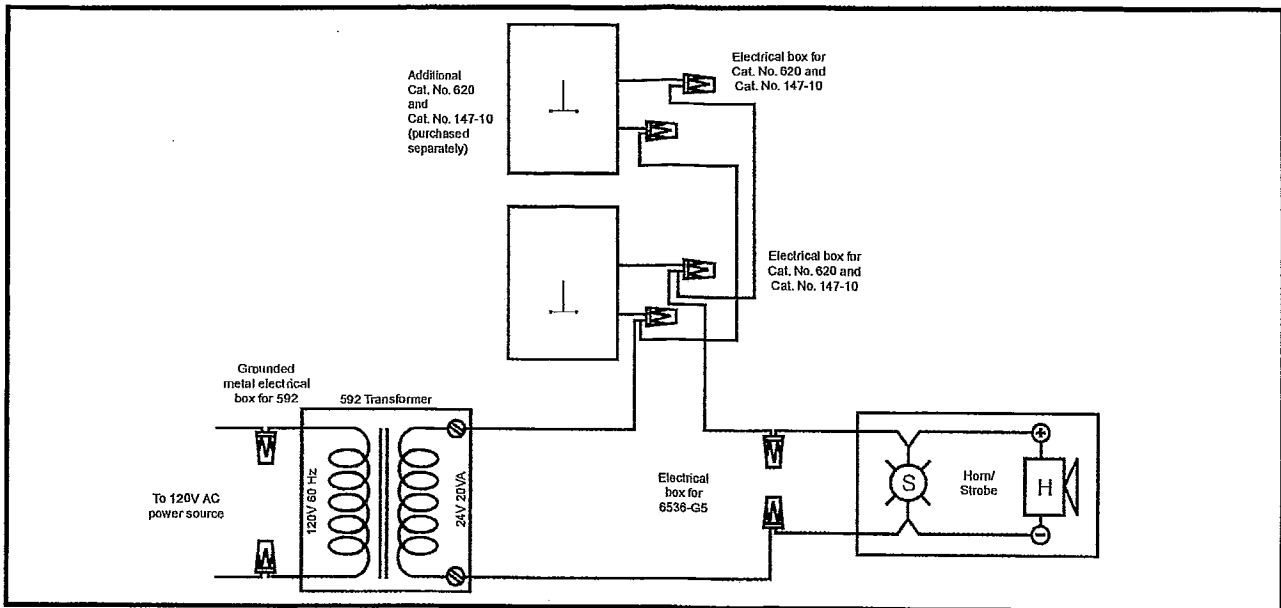

Figure 1. Connecting Catalog No. 7005-G5 Hotel Room Annunciator
1. Install Cat. No. 620 Pushbutton and Cat. No. 147-10 mounting plate (Figures 1 and 2)
- e. If additional pushbuttons are required, follow steps a and b above. Then, extend black and white wires using 18 AWG wire and connectors (not supplied). Route extended wires to the previously installed pushbutton switch and connect wire leads (Figure 1).
2. Install Catalog No. 6536-G5 horn/strobe (Figures 1 and 4).
3. Install Catalog No. 592 Transformer (Figures 1 and 3).